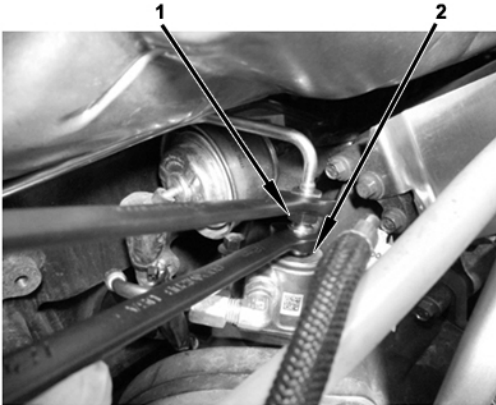

Figure 37 HCl Fuel Inlet
14. Attach HCl fuel supply line nut (1) to HCl fuel inlet (2) and torque to 18 lb-ft (24 N•m) (Figure 37).